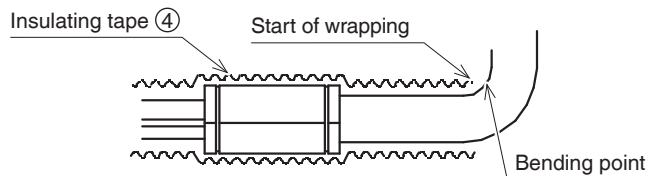

Fig. 21
- Wrap the insulating tape ④ around the insulation tube ⑦ (flare nut section), both the gas and liquid piping.
- Wrap the insulating tape ④ from the bending point of refrigerant pipe to the inside indoor unit. (**Fig. 21**)